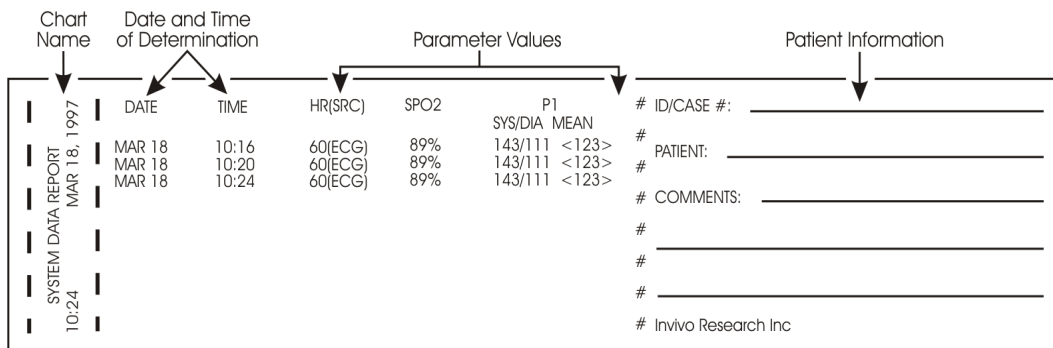

Figure 5-4. System Data Report
5.3.3 System Data Report. (See Figure 5-4) The System Data Report provides a hardcopy printout of the numerical indications of all the active patient parameters along with the date and time of the determination.